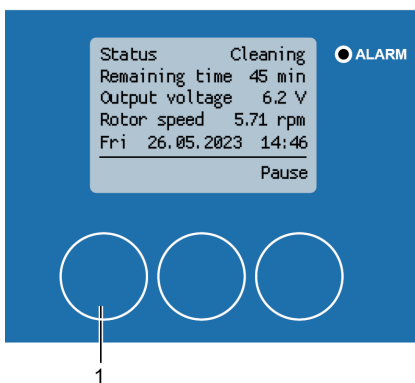

Fig. 168: Resume cleaning process
1. Press **[Resume]** (Fig. 168/1) to resume the cleaning process.